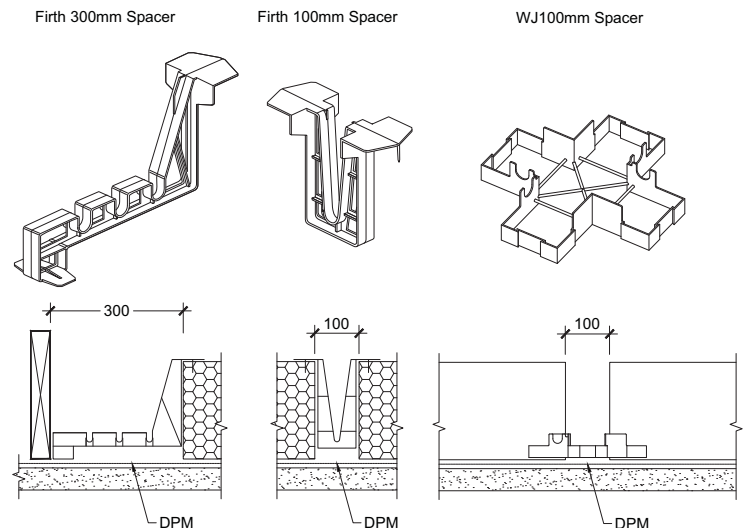
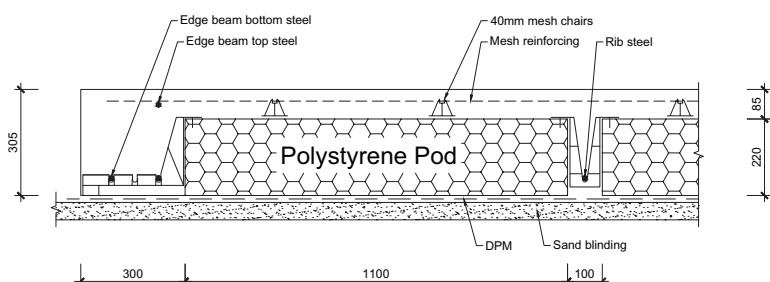

Figure 9 Spacer Details
Figure 10 Detailed Section
The Firth RibRaft polystyrene pods shall be laid out over the DPM in a regular waffle pattern ensuring direct contact with the ground across the entire pod. The edge beam shall be formed using the Firth approved 300mm spacers (refer figure 9). These shall be placed at a maximum of 1200mm centres along the perimeter of the slab and one per pod or part pod. Ribs supporting a load bearing wall shall be formed using a minimum of one Firth approved 300mm spacer along the edge of each pod or part pod.
Two edge beam reinforcing bars shall be placed in the bottom of the edge beam and supported in the correct position by the Firth spacers, as shown in Figure 10. One edge beam bar shall be tied below the mesh at the perimeter of the area covered by the polystyrene pods as shown in Figure 10.
Rib reinforcing steel shall be placed in the bottom of the internal ribs and supported in the correct position by the Firth or Wilton Joubert spacers (WJ). Figure 9 shows the detail of the Firth and WJ spacers, and Figure 10 shows a detailed section identifying how the steel is located in the spacers. The 300mm spacer shall be used for the 300mm wide internal ribs. These spacers ensure that cover to DPM below the base is greater than 45mm and cover to the exterior perimeter is 75mm.